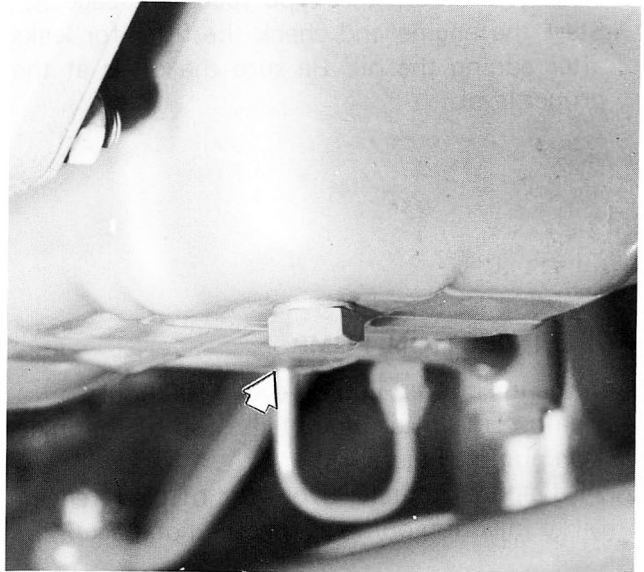

Figure 42 – Engine Oil Drain Plug
1. With the engine off, but at normal operating temperature, drain and discard the engine oil by removing the drain plug, Figure 42. Reinstall the plug after the oil has drained and discard the oil.